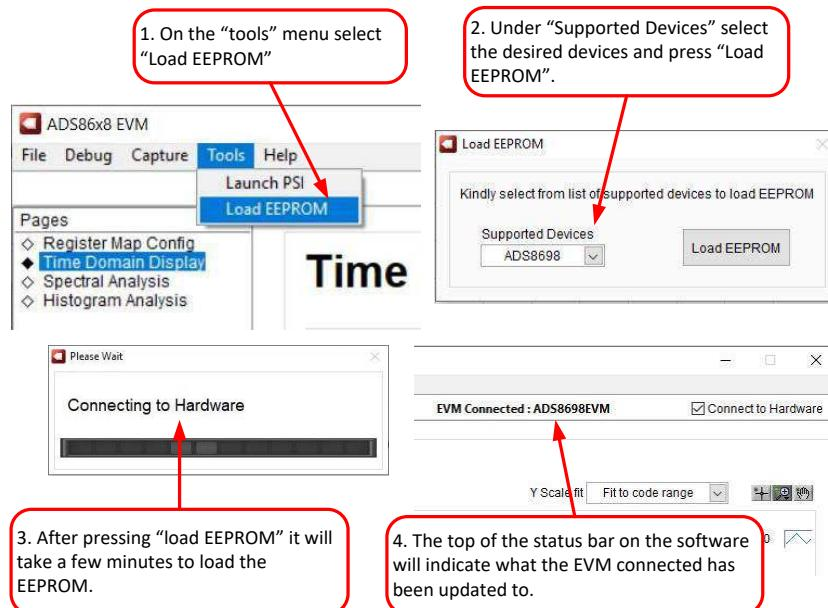

Figure 7-4. Configure EEPROM and Software for the New Device
4. Use the *Tools* menu to *Load EEPROM* according to the device that is currently installed. When this procedure is successfully completed, you will see the status bar at the top of the software update according to the device installed on the hardware. For details, see Figure 7-4.